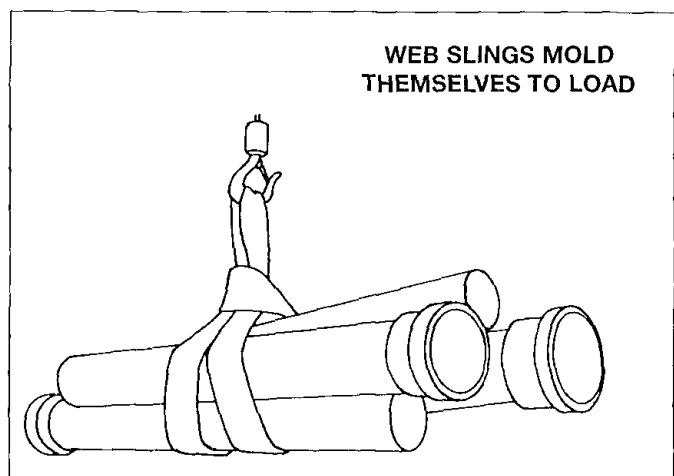

Figure 30
- Because of their flexibility, synthetic web slings tend to mold themselves to the shape of the load (Figure 30).